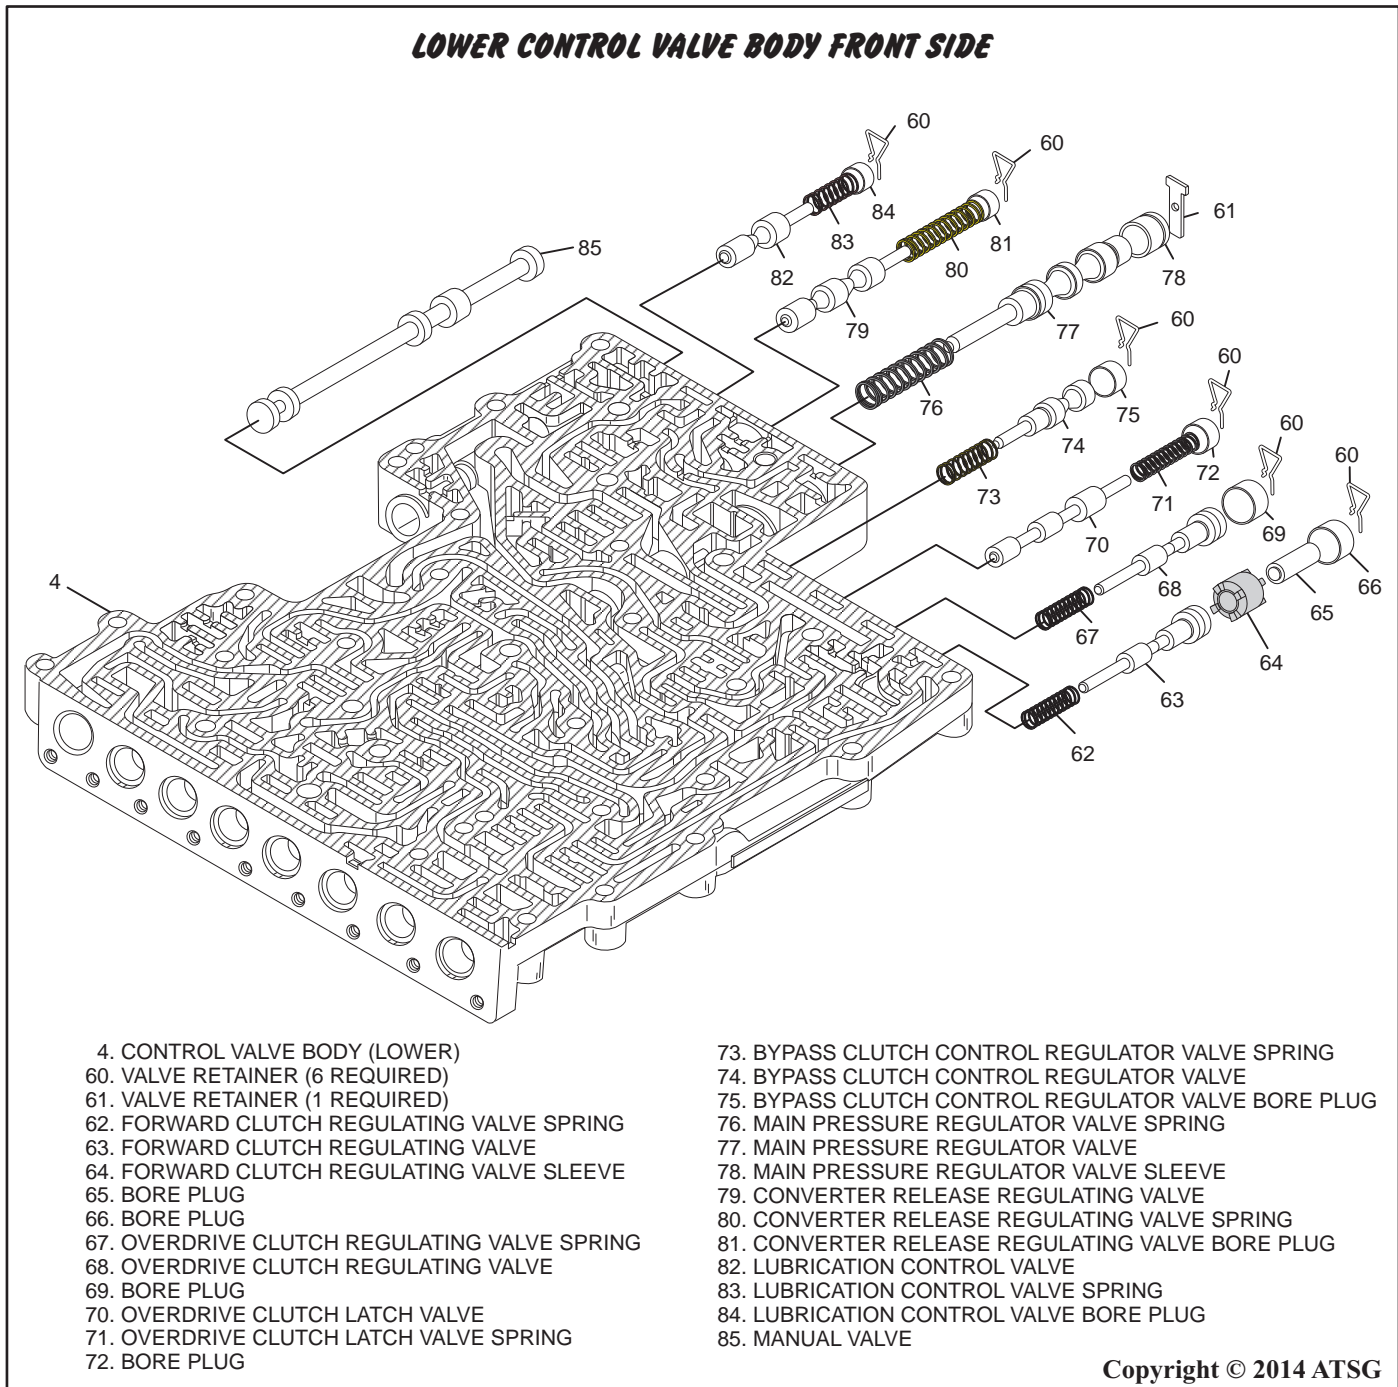

Figure 124
14. Disassemble the lower control valve body rear and front sides as shown in Figure 123 and Figure 124.
15. Carefully remove each retainer, bore plug, valve and spring and place them into appropriate trays, laying them out in the exact order in which they are removed, using Figure 123 and Figure 124 as a guide.
18. Install each spring, valve, bore plug and retainer in the lower control valve body in the exact order as shown in Figure 123 and Figure 124.